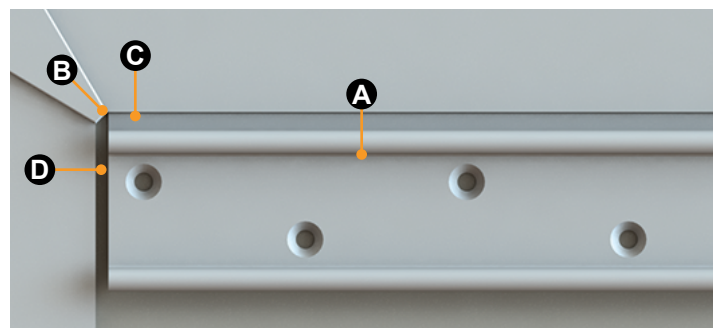
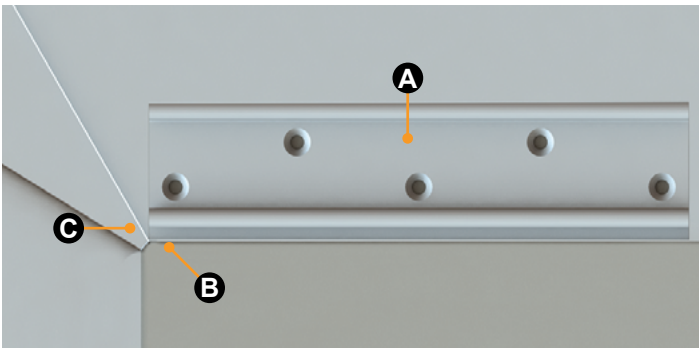

Fig.8
Fig.9
NOTE: If mounting the Solera Slide Topper access plate on the T-molding, see "Installing Solera Slide Topper Access Plate" section (Fig.9), the awning rail must be a minimum of 4 ½" above the upper edge of the slide room the Slide Topper will cover.
1. Install the access plate below the T-molding (Fig.8) or on the T-molding (Fig.9).
NOTE: If installing the slide topper access plate on the T-molding, see "Installing Solera Slide Topper Access Plate" section (Fig.9), use the first extrusion from the top of the extension bracket method (Fig.11A).